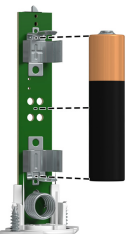

FIGURE 5
4. Remove the battery for a few seconds. Replace the battery back (Verify the polarity and insert properly) + and - marked on the battery terminals, see Figure 5.